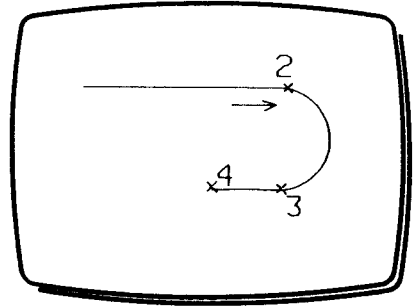

Fig 2
- 7 Move XY to move the dynamic cursor to (3) in Fig 2. Try to make an exact semi-circle.